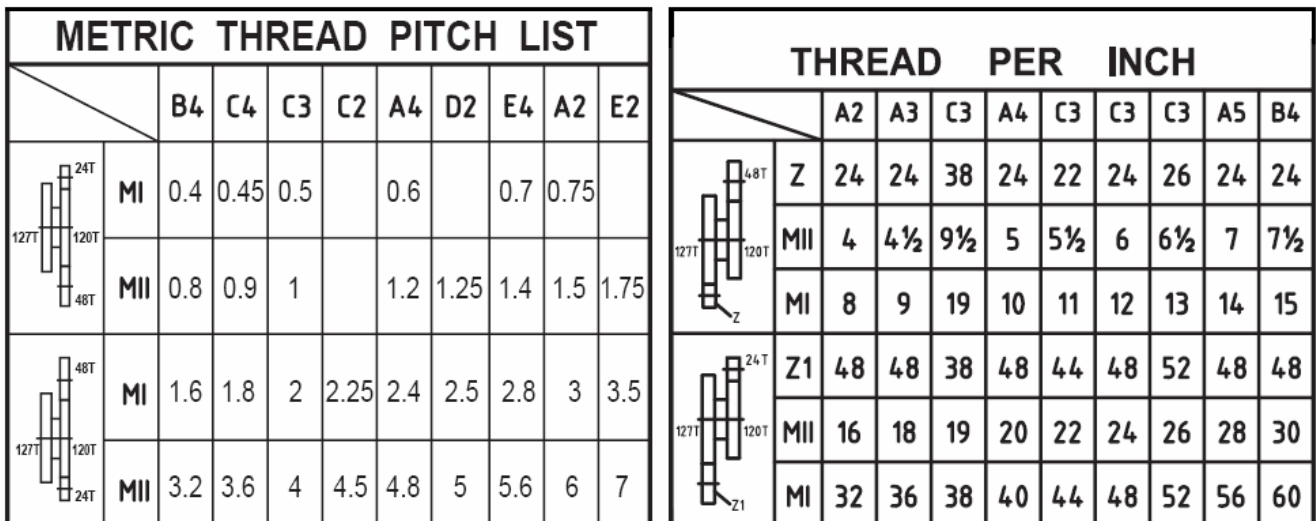

Figure 41
3. Review the threading chart for the required thread to be cut (see **Figure 41**). The chart indicates that to cut a 0.75 metric thread, the change gears and feed dials must be in the following positions: